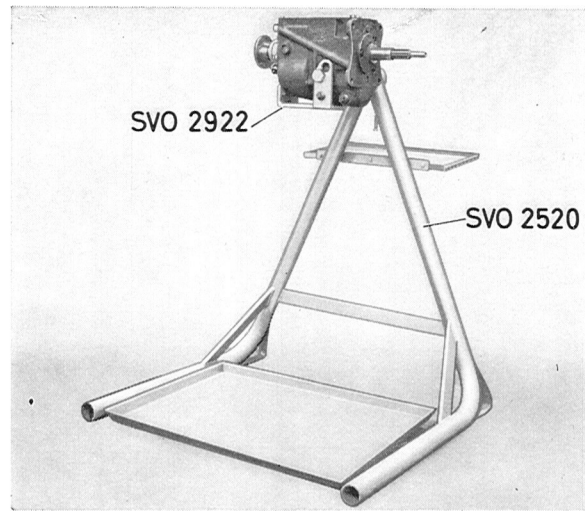

Fig. 4-27. Transmission fixture
- 2922 Fixture for transmission disassembly and assembly (used together with 2520, see Fig. 4-27)
1. Install fixture 2922 in stand 2520. Place the transmission in the fixture, see Fig. 4-27.